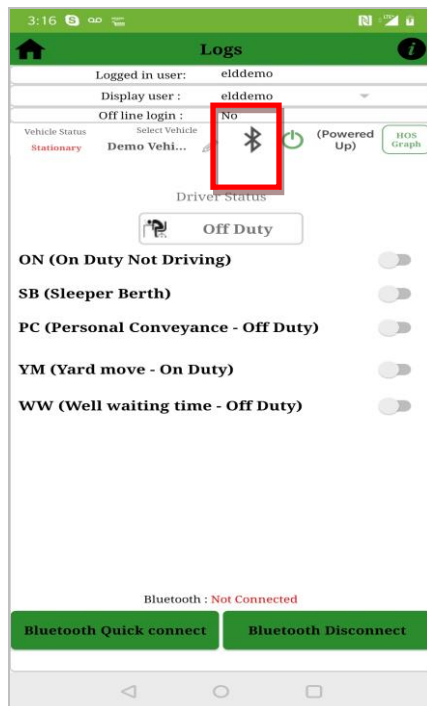

Figure 8.1 – Logs screen
- In the Logs screen, Select Bluetooth icon next to Select Vehicle (figure 8.1).